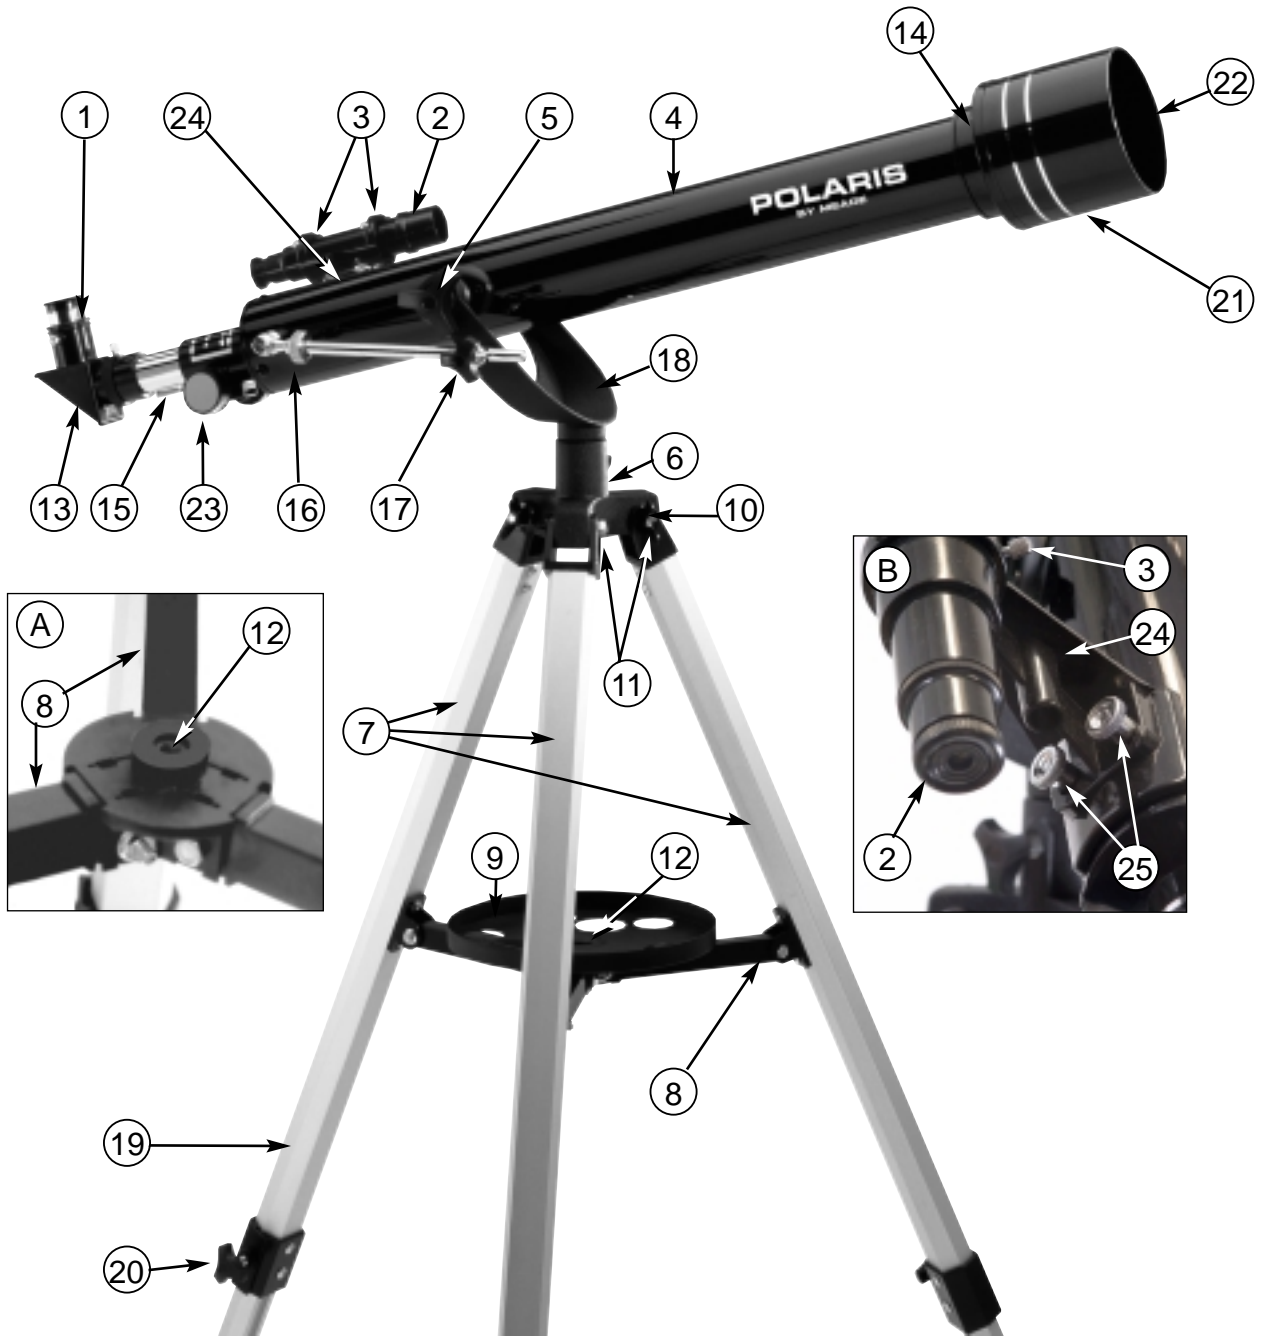

Figure 1: Polaris 60AZ-D Altazimuth Refracting Telescope
STANDARD EQUIPMENT (Refer to Fig. 1)
2. Attach the 3 aluminum tripod legs (**7, Fig. 1**) to the base of the altazimuth mount (**10, Fig. 1**) with the 3 hinged leg brace supports (**8, Fig. 1**) facing inward. Three bolts (**11, Fig. 1**), each about 2" long, with washers and wing nuts, are provided for this purpose in hardware package "A." Stand the telescope upright, spreading the tripod legs evenly apart so that the accessory tray can be positioned to attach to the 3 leg braces.
3. Attach the accessory tray (**9, Fig. 1**) to the leg brace supports (**8, Fig. 1**) by threading the bolt on the bottom of the tray into the center hole located where the three brace supports meet (**see Fig. 1, Inset A**) and turning the tray clockwise. Tighten to a firm feel, but do not overtighten—you will need to remove the tray if you wish to collapse the tripod. To remove the tray, just rotate the tray counterclockwise until the tray comes loose.
4. Extend the sliding center portion of the adjustable height tripod leg (**19, Fig. 1**) to the desired length for all 3 legs. Lock the tripod legs by tightening the leg lock thumbscrew (**20, Fig. 1**) to a firm feel.
9. Attach the viewfinder bracket (**2, Fig. 1**) to the telescope using the 2 thumbscrews provided (**25, Fig. 1**). The thumbscrews fit through the 2 holes located at the base of the viewfinder bracket and thread into the main tube (**see Fig. 1, Inset B**).
10. Insert the diagonal mirror (**13, Fig. 1**) into the focuser drawtube (**15, Fig. 1**) and the H 25mm eyepiece (**1, Fig. 1**) into the diagonal mirror. Tighten the respective thumbscrews to a firm feel.
11. The telescope is now completely assembled. To move the telescope and point it from one object to another, first slightly loosen one of the chrome-lock (star-shaped) knobs (**5, Fig. 1**) which serve as a vertical lock, then loosen the azimuth (horizontal) lock (**6, Fig. 1**). Also, slightly loosen the altitude coarse adjustment lock knob (**17, Fig. 1**). Loosening these locks allows the telescope to be moved freely (vertically or horizontally) in any direction so that the telescope can be positioned to center a terrestrial or celestial object in the telescopic field. Once an object is found, the altitude lock knob (**17, Fig. 1**) can be tightened and the altitude slow-motion fine-adjustment control knob (**16, Fig. 1**) can then be used to make very smooth and accurate tracking in the vertical axis.
The 5 x 24mm viewfinder (**2, Fig. 1**) is a low-power, wide-field sighting device that, once aligned, will allow you to point the telescope with greater precision. **Note:** *When you look through the viewfinder, you will see a crosshair with images that will be upside-down; this is normal.*
1. Remove the lens cap (**22, Fig. 1**) of the optical tube assembly. Insert the 25mm wide-field eyepiece into the diagonal mirror (**13, Fig. 1**). Point the optical tube assembly (**4, Fig. 1**) at a distant land object (e.g. a distant telephone pole). Make sure the detail of the distant object you have chosen is in sharp focus. Focusing is accomplished by turning the focusing knob (**23, Fig. 1**) until the sharpest possible image is attained.
2. Center the viewfinder (**2, Fig. 1**) in both the front and rear rings using the collimation screws (**3, Fig. 1**). Next, looking through the viewfinder, adjust the collimation screws on the rear ring until the object centered in the telescope's main tube is likewise positioned in the center of the viewfinder's crosshairs. Now it is possible to quickly sight an object in the viewfinder first, then find that object approximately centered in the 25mm eyepiece of the telescope.
2. To center an object in the main telescope, first use the aligned viewfinder to find the object you wish to observe. If necessary, slightly loosen the vertical lock (**5, Fig. 1**) and the altitude rod lock knob (**17, Fig. 1**) to re-position the telescope so that the desired object can be centered in the viewfinder. When the object is centered in the viewfinder, it should then, also, be somewhere in the main telescope's field of view. Next, using the 25mm eyepiece, center the object in the main telescope's field of view, and sharply focus the image by turning the focus knob (**23, Fig. 1**).
To use the 3x Barlow lens, remove the diagonal mirror (**13, Fig. 1**) from the focuser drawtube (**15, Fig. 1**). Then insert the 3x Barlow lens, followed by the diagonal mirror (**13, Fig. 1**) and finally the 25mm eyepiece (**1, Fig. 1**). Refocus until the image is sharp.
As with any quality optical instrument, lens surfaces should be cleaned as infrequently as possible. A little dust on the surface of the objective lens (**14, Fig. 1**) causes negligible degradation of image quality and should not be considered reason to clean the lens. When lens cleaning does become necessary, use a camel hair brush or compressed air to gently remove dust. Wipe only with a soft, clean cloth, applying as little pressure as possible to avoid scratching glass surfaces. **Note:** *Gently pull off and remove the the dew shield/lens shade (**21, Fig. 1**) to access the objective lens (**14, Fig. 1**).*